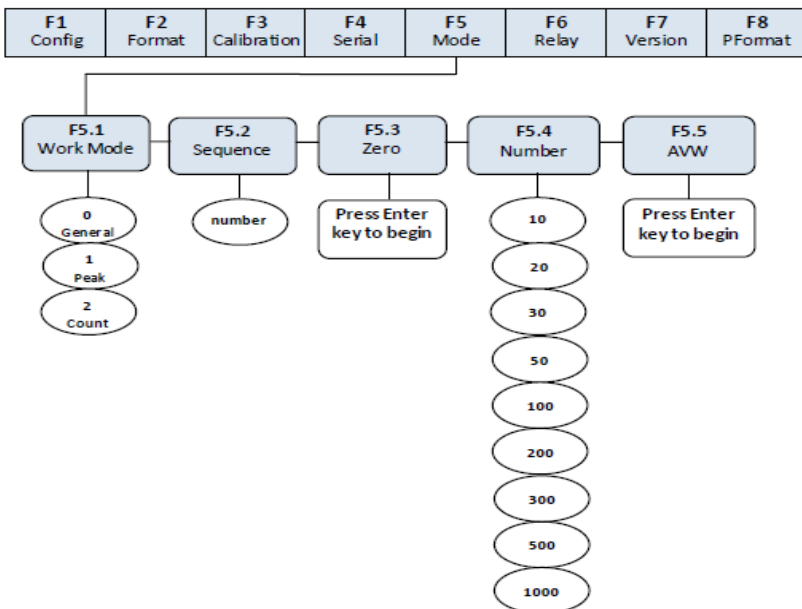

Fig. 11.1 Count Items Average Weight Setup Menu
- (1) Turn on the SW2 switch to set indicator to the Configuration mode (display shows “F1”).
- (2) Press  until display shows “F5” (see Fig 11.1). Press  and the display will show “F5.1”. Press  then press  until F5.1 = 2. Next press  to save the value. Once the value is saved, “F5.2” is displayed.